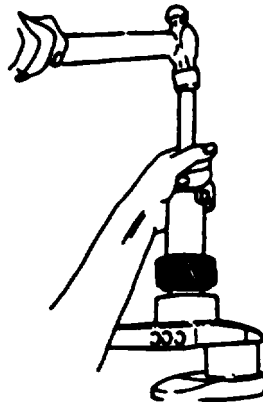

FIGURE 3-92. Crankshaft Gear Installation
- a. Install key (17, FIGURE 3-77) on crankshaft and using gear installer (320908) install gear (16) on crankshaft, refer to FIGURE 3-92.